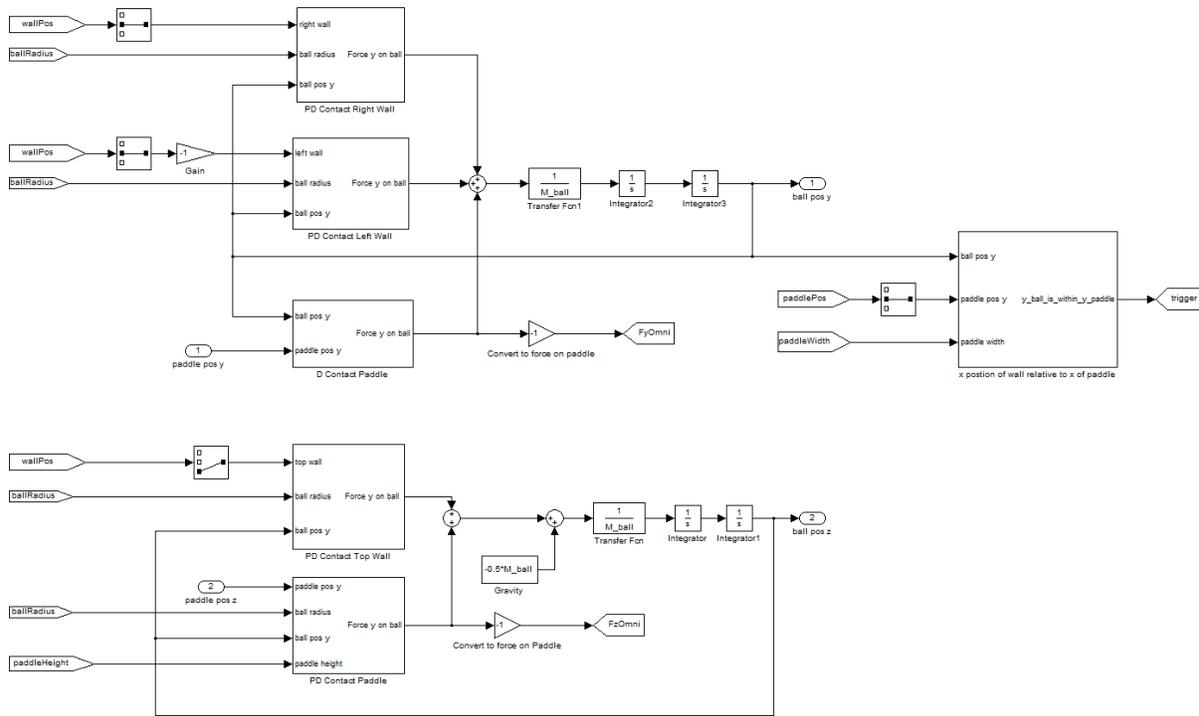

Figure 12.6: 2D Pong ball model
8. Change the input *ball pos y* of the **y position of wall relative to y of paddle** block to the output of your dynamic model. Your model should resemble Figure 12.6.